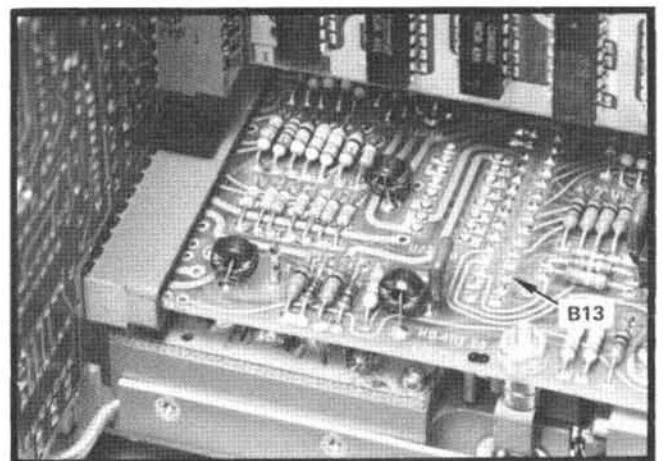

Fig. 4-5. Location of B13 on J2210.
j. Use a shorting strap to short pin B13 of J2210 (Fig. 4-5) to ground. (Pin B13 and pin 13 of the decoupling circuit board are connected together.)